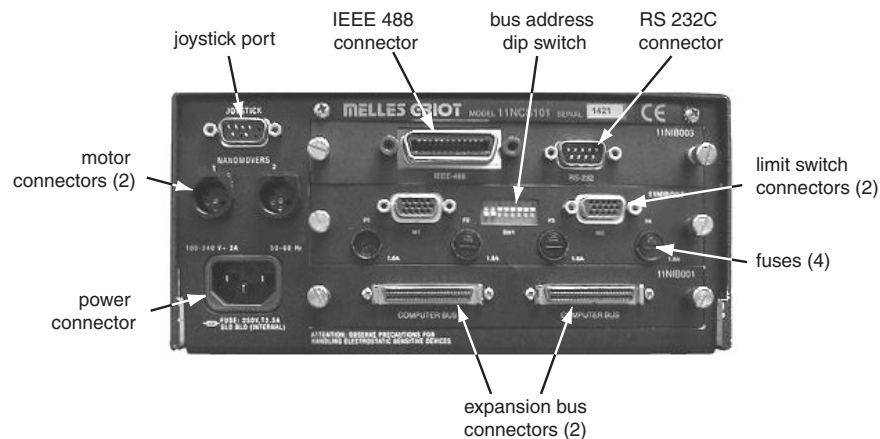

Figure 3.2 Back Panel of Nanomotion II
The back panel of the Nanomotion II controller, shown in Figure 3.2 contains three horizontal card bays. The top bay contains the IEEE/RS-232 interface board, the middle bay contains the motor control board, and the bottom bay contains the expansion board used to daisy-chain controllers. There are three possible configurations for the unit.
- Standard IEEE 488.2/RS-232C configuration shown in Figure 3.2 with expansion board (11 NCS 101/IEEE with 11 NIB 001): In this configuration, all bays are filled. The unit can now be daisy-chained to other controllers for operation of up to 16 motors. With appropriate software and a PC-Link card, it can also be used with the Windows Control Program, DLLs, and MS-DOS "C" libraries.